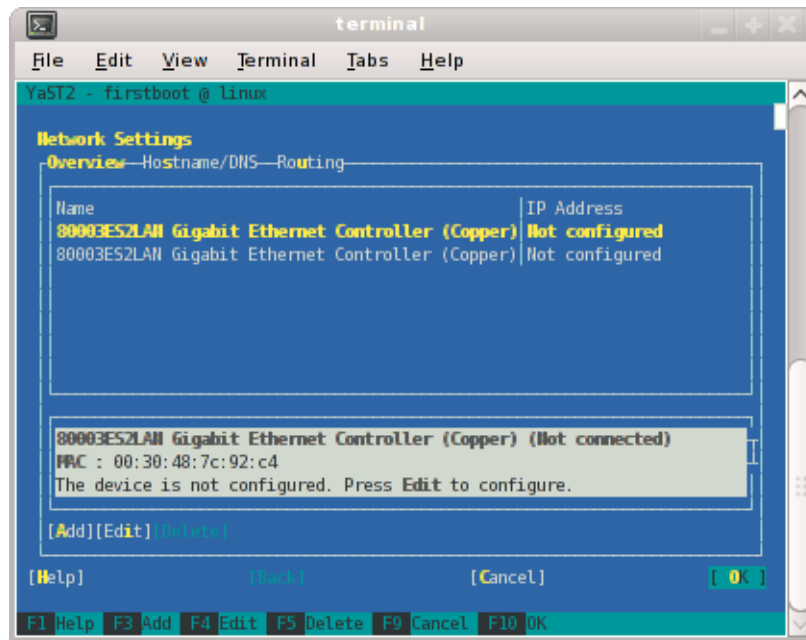

Figure 1-12 Network Settings Screen
7. From the **Network Settings** screen, as shown in Figure 1-12 on page 19, configure the first card under **Name** to establish the public network (sometimes called the house network) connection to your system management node (SMN). To do this, highlight the first card and select **Edit**.
Note: In SLES11, this screen is also where we will come back to in order to set up things like the default route and DNS. You can see all of those menu choices just to the right of **Overview** in Figure 1-12 on page 19.